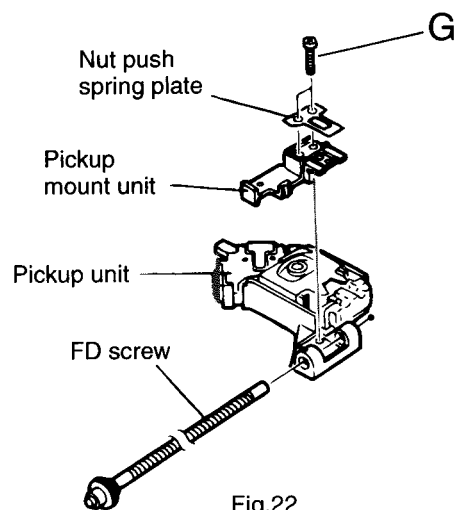

Fig.22
8. By removing the two screw G retaining the pickup unit, dismount the nut push spring plate and pickup mount nut (See Fig.22).
9. Remove the FD screw from the pickup unit (See Fig.22).